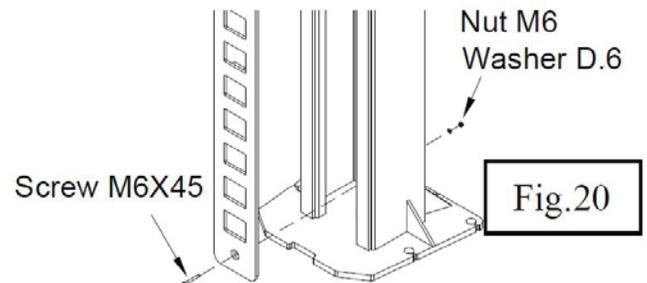

Fig.20
- Secure the bottom of the latch rack to the column as shown in fig.20.